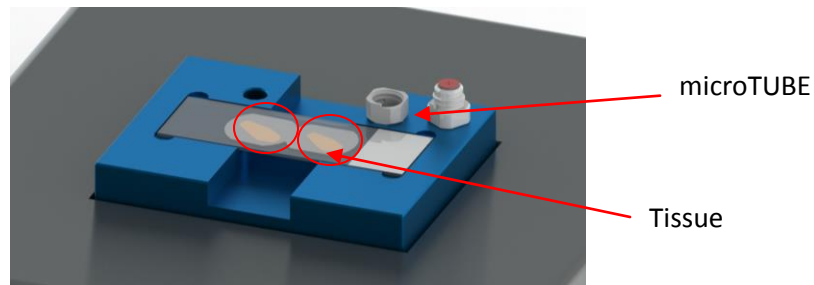

Figure 2 – Slide placed into FFPE sectionWARMER
5. Place the FFPE tissue section slide in the slot as shown in figure 2 (tissue side up) and wait for 30 seconds.